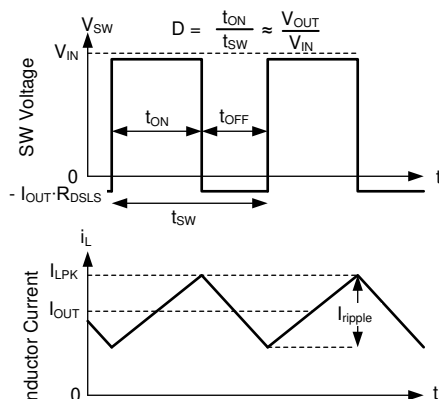

Figure 7-18. SW Voltage and Inductor Current Waveforms in Continuous Conduction Mode (CCM)
The following operating description of the LMQ644xx refers to Functional Block Diagram and the waveforms in 図 7-18. Both supply a regulated output voltage by turning on the internal high-side (HS) and low-side (LS) NMOS switches with varying duty cycle (D). During the HS switch on-time, the SW terminal voltage, V_{SW} , swings up to approximately V_{IN} , and the inductor current, i_L , increases with a linear slope. The HS switch is turned off by